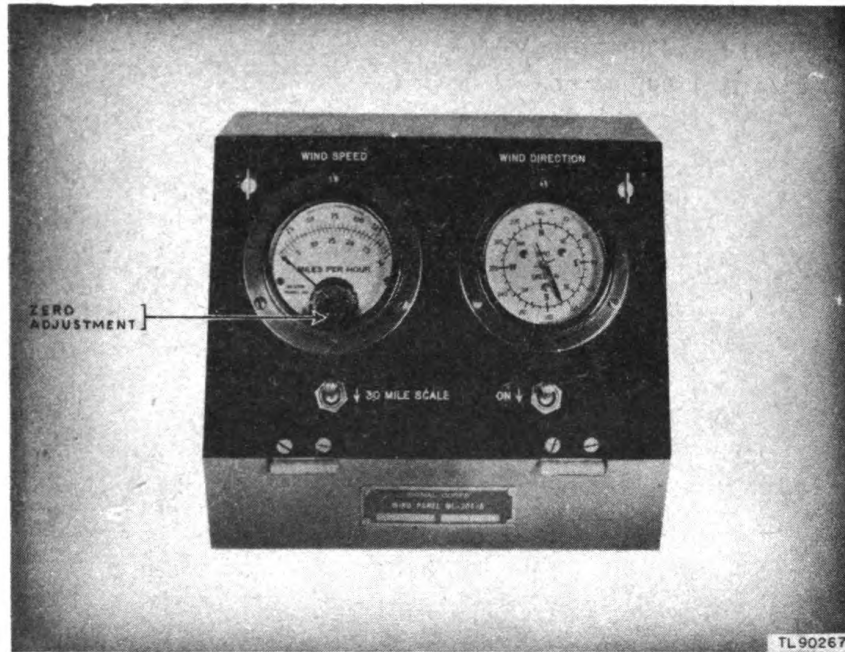

Figure 3. Wind Panel ML-204-A or ML-204-B.
- b.* Wind Panel ML-204-A (figs. 3 and 4).
- b. Wind Panel ML-204-B (figs. 3 and 4).
#### **5. WIND PANELS ML-204-A AND ML-204-B (figs. 3 and 4).**